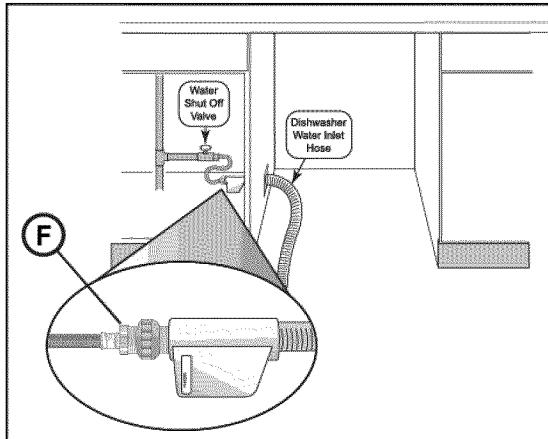

Figure 8
Install an easily accessible shut-off valve (not supplied) in the hot water supply line, as shown in **Figure 8**. All solder connections must be made before the water line is connected to the dishwasher.
- NOTE: The end of the dishwasher water inlet hose is heavy and will need to be supported. It is best to lay the end on the cabinet floor as shown in Figure 8.*